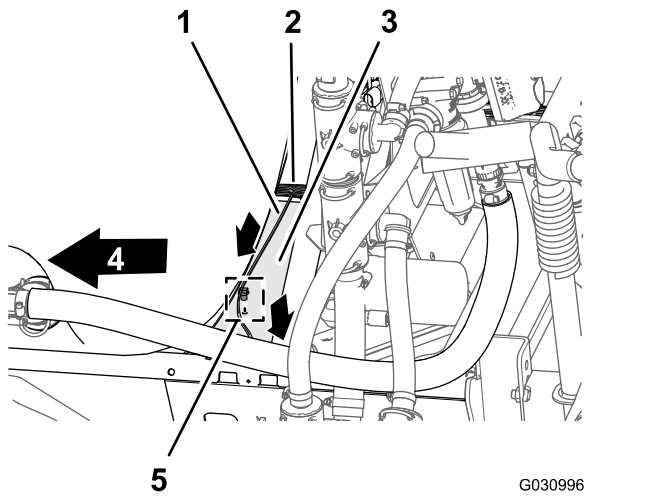

Figure 100
1. Route the 86 cm (34 inch) wire-harness branch for the spray-pump solenoid across the top of the sprayer frame channel and down toward the sprayer-pump solenoid (Figure 100).
2. Insert the push-in fastener of the 86 cm (34 inch) wire-harness branch into the hole in the sprayer frame channel (Figure 100).